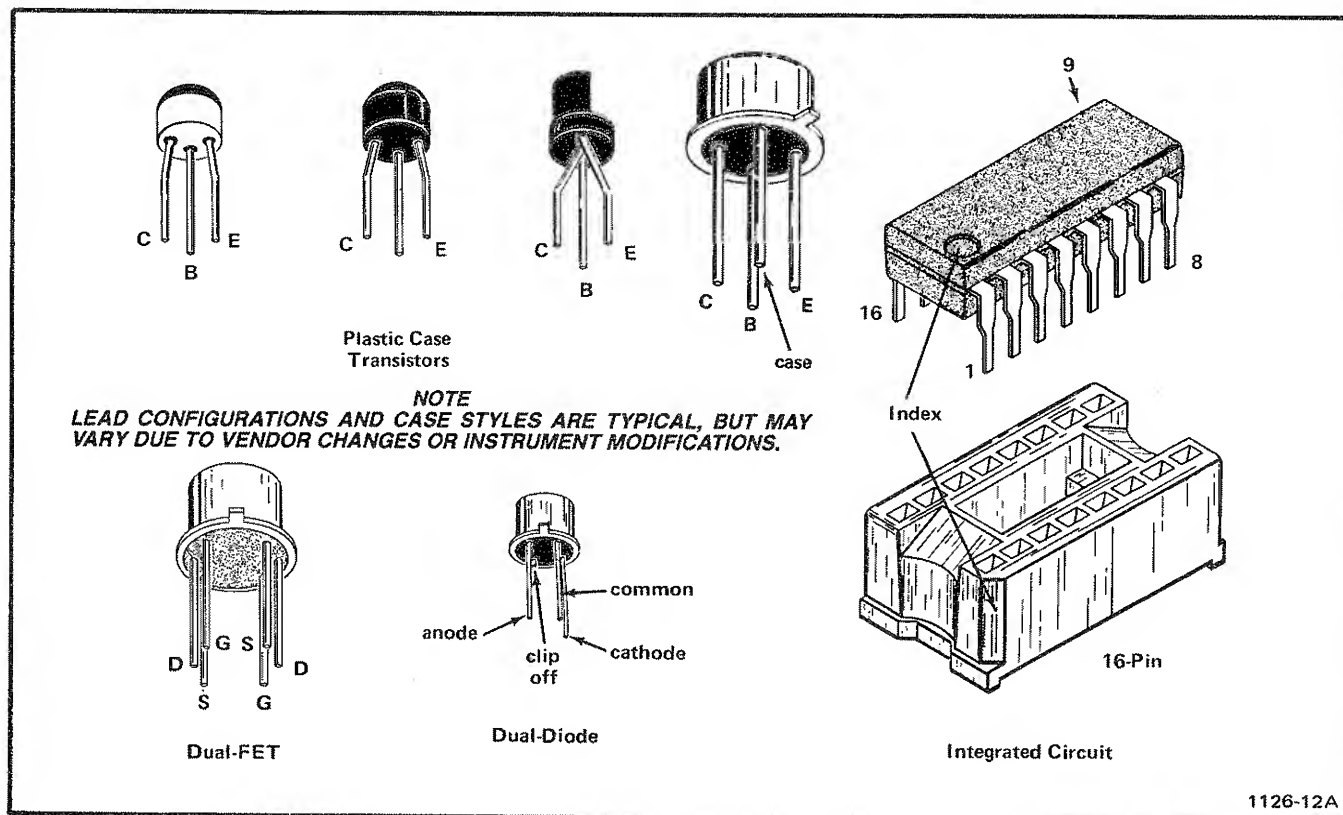

Fig. 5-1. Electrode configuration for semiconductors used in this instrument.
Semiconductor Lead Configuration. Figure 5-1 shows the lead configuration of the semiconductor devices used in this instrument.
A. **TRANSISTORS AND INTEGRATED CIRCUITS.** The best check of transistor and integrated circuit operation is actual performance under operating conditions. If a transistor or integrated circuit is suspected of being defective, it can best be checked by substituting a component known to be good; however, be sure that circuit conditions are not such that a replacement might also be damaged. If substitute transistors are not available, use a dynamic tester (such as TEKTRONIX 576). Static-type testers may be used, but since they do not check operation under simulated operating conditions some defects may go unnoticed. Figure 5-1 shows base pin and socket arrangements of semiconductor devices. Be sure the power is off before attempting to remove or replace any transistor or integrated circuit.